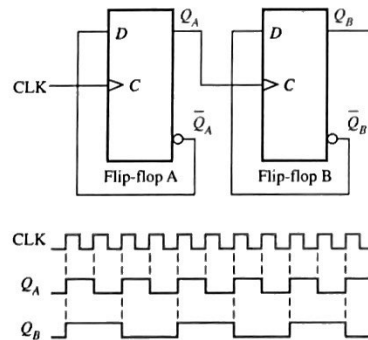

Figure 3: Two D flip-flops forming a frequency divider.
1. Consider Fig. 3, in which a divide-by-four frequency divider is depicted with D flip-flops and a CLK signal. (a) Elaborate on this circuit to create a circuit that can divide the clock frequency by 2, 4, or 8. Show the flip-flops explicitly. (b) Develop a symbol for the 2-4-8-16 divider, with CLK signal input and four outputs (one each for $f/2$, $f/4$, $f/8$, and $f/8$, where f is the clock frequency). (c) Connect the symbol for the new part to a symbolic 4-to-1 multiplexer with the appropriate number of data select lines to form a clock division system. (d) Show with a timing diagram the output if the user changes the data select lines at least once. For parts (b)-(d), it is only necessary to show symbols rather than individual flip-flops.